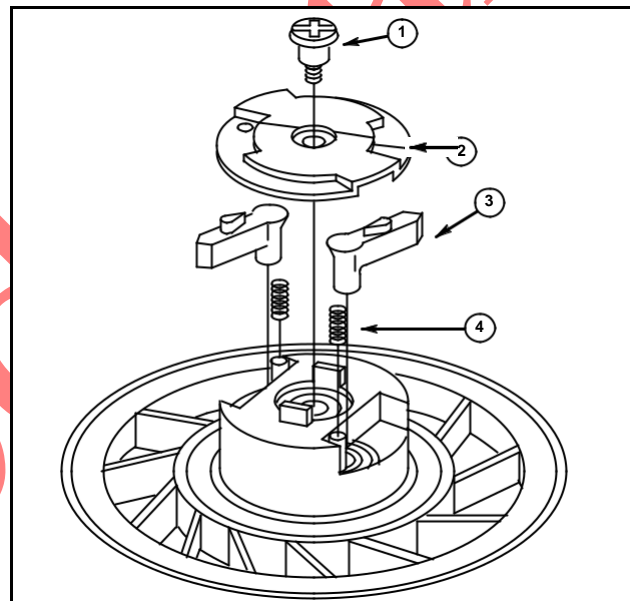
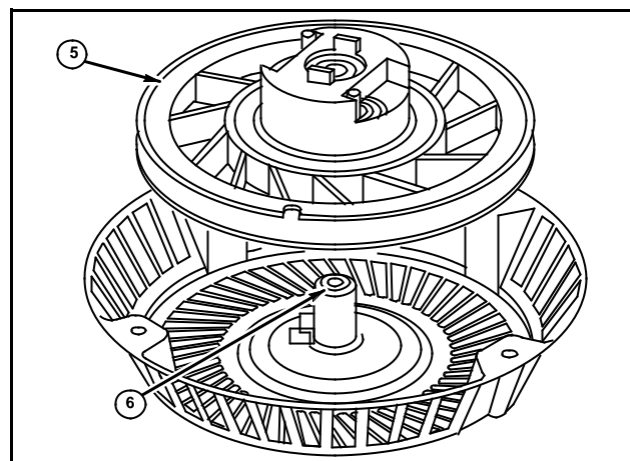

Fig. 34
Fig. 35
1. Remove shoulder screw (1) and retainer (2), Fig. 34.
2. Lift out pawls (3) and pawl springs (4), Fig. 34.
3. Rotate pulley (5) on pivot post (6) until it turns freely.
4. Carefully lift out pulley with spring, Fig. 35.
2. Assemble starter pulley to center pivot post in housing, Fig. 35.